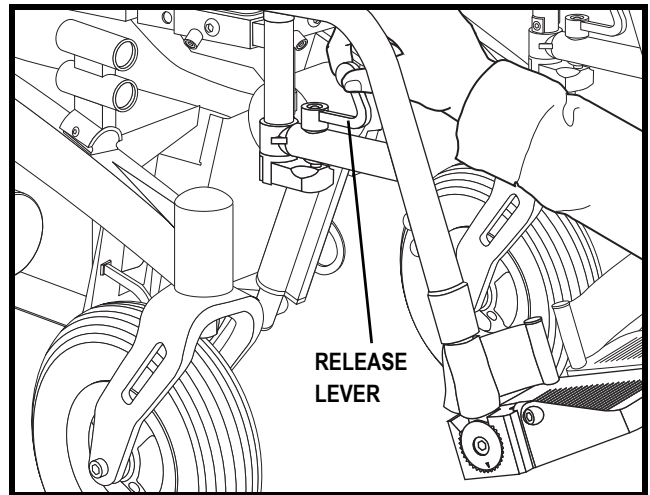

Figure 19. Swing-away Footrest
1. Push the release lever to either side. See figure 19.